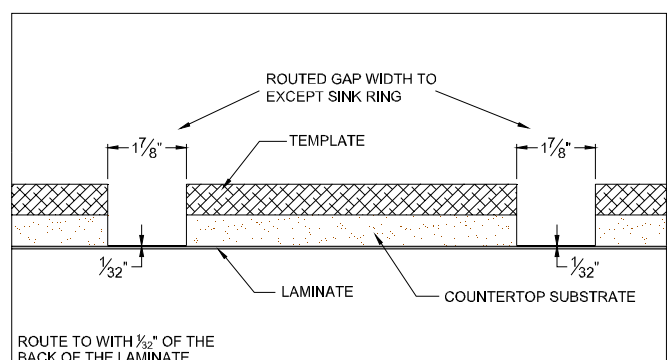

Figure 1D
- Index a 3¼ HP or 2½ HP plunge router with a 1½ x 1" top bearing flush trim router bit to remove the substrate. (FIG. 1D)